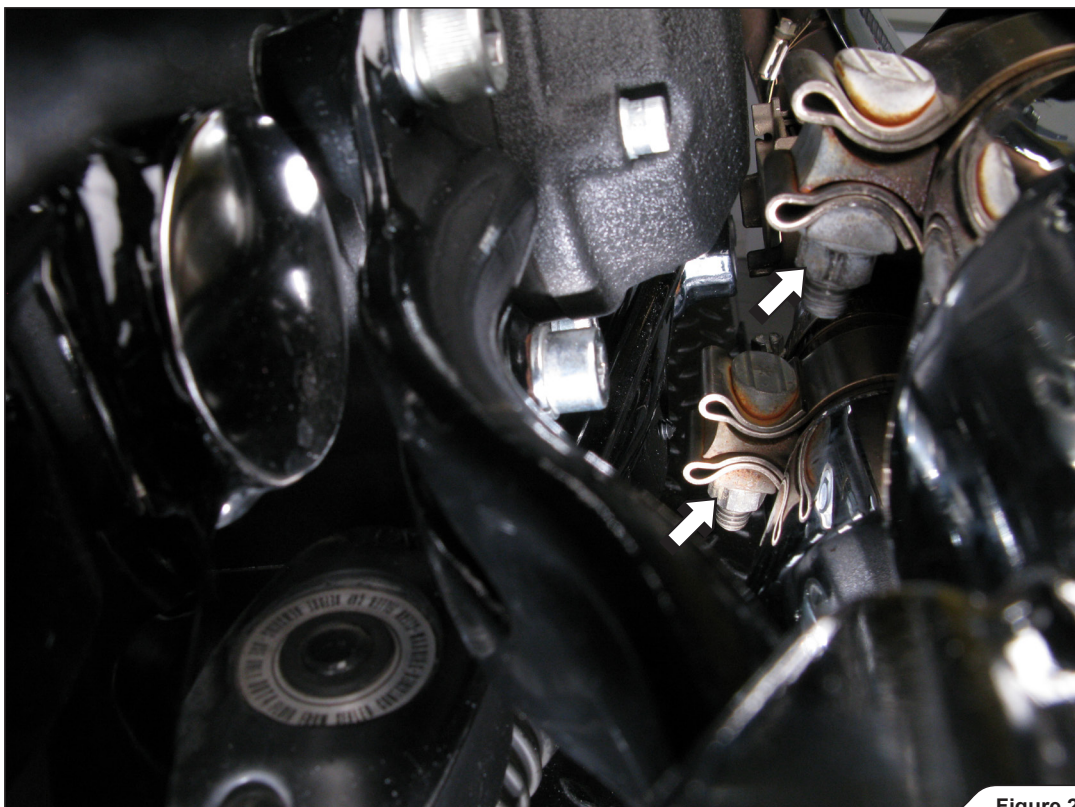

Figure 2
3. Loosen both muffler-header connection clamps and remove the mufflers off the motorcycle (Figure 2).